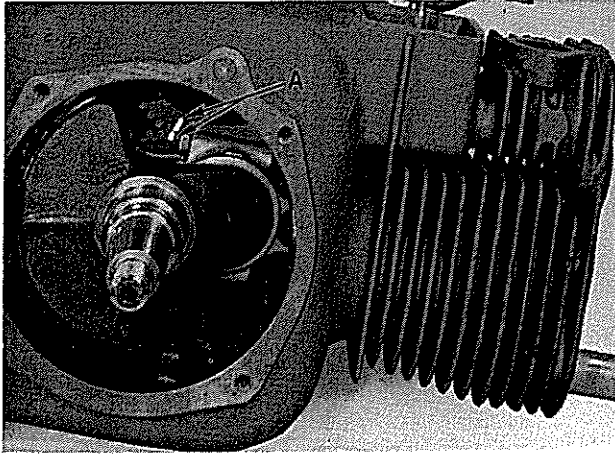

Figure 17
- a. Timing marks are provided on crankshaft and camshaft gears to correctly time the engine (Figure 17). The mark on a tooth of the camshaft gear must line up with mark on the shoulder of the crankshaft gear after the crankshaft is in place.